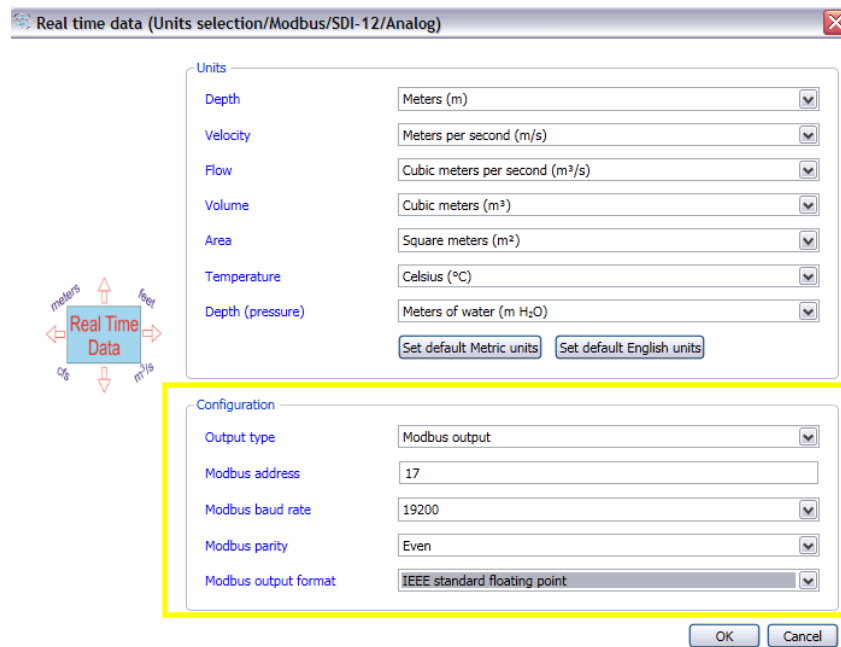

Figure 78. Modbus configuration using the IQ software
- Figure 78 presents an example Modbus configuration.